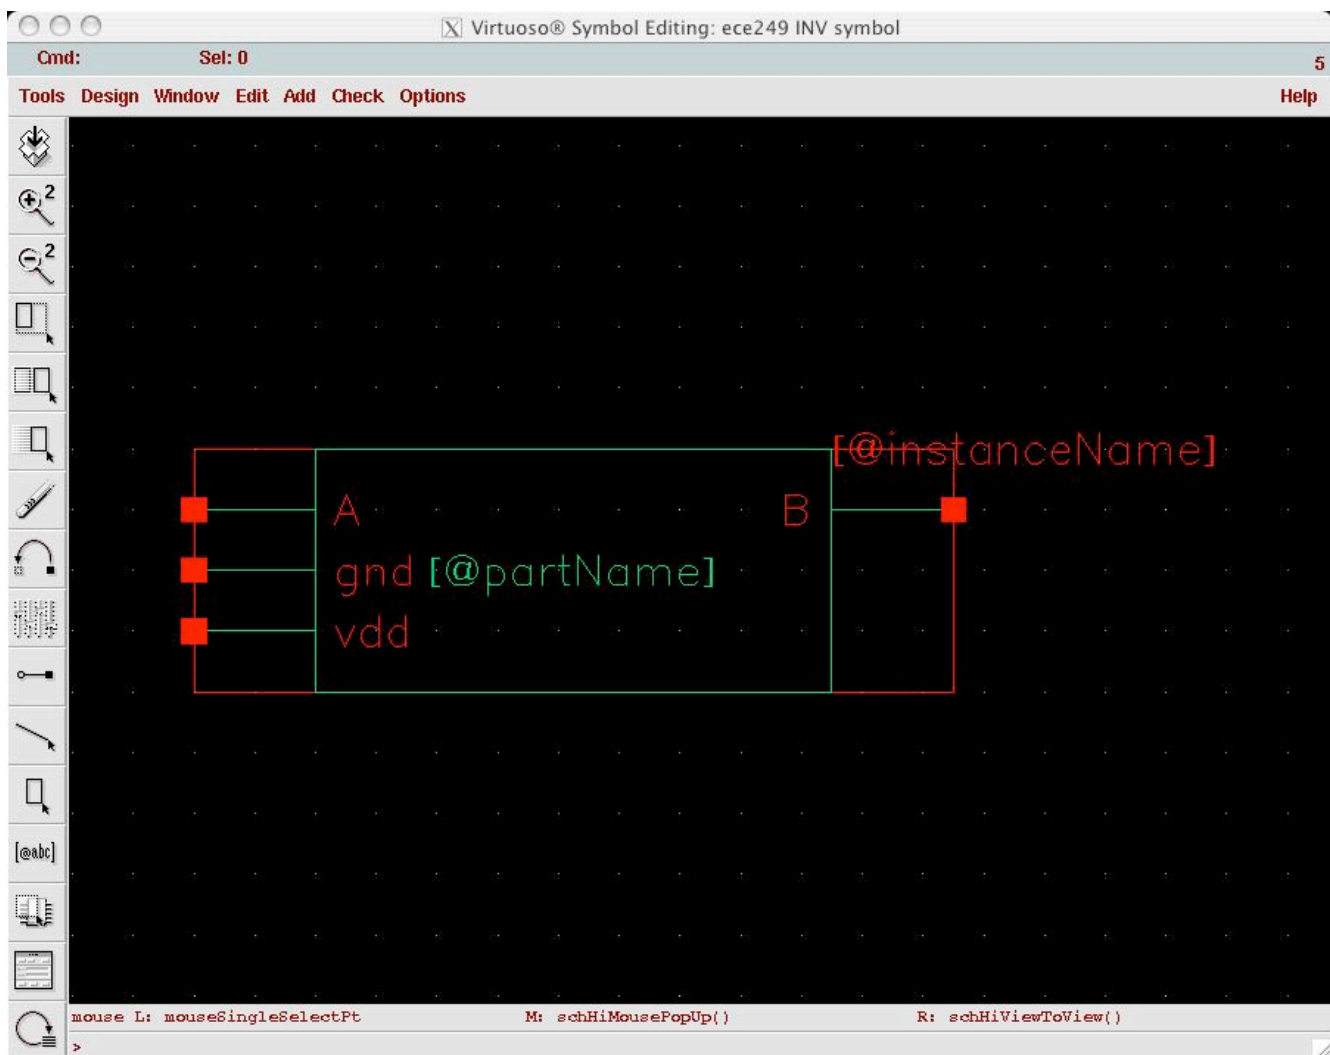
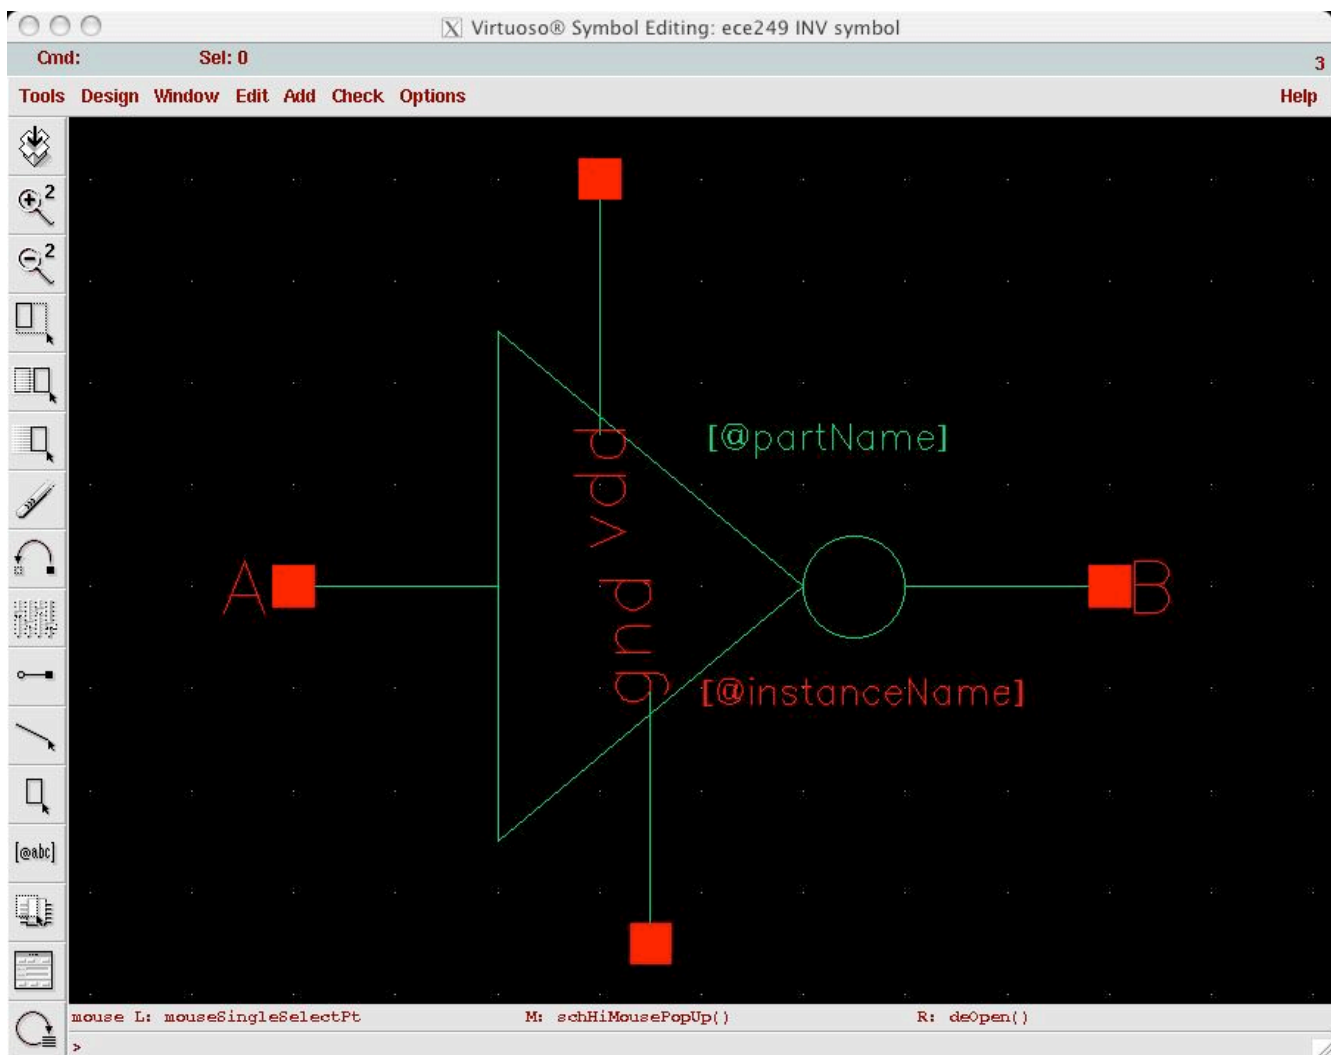

Fig. 10. Automatically generated inverter symbol.
Fig. 11. The inverter symbol after modification.
- Step 3:** In a new window, a symbol is automatically generated. The default shape of the symbol icon is a rectangle as shown in Figure 10.
Figure 11 is an example for a manually created inverter symbol, which was obtained by editing the symbol shown in Fig. 10.